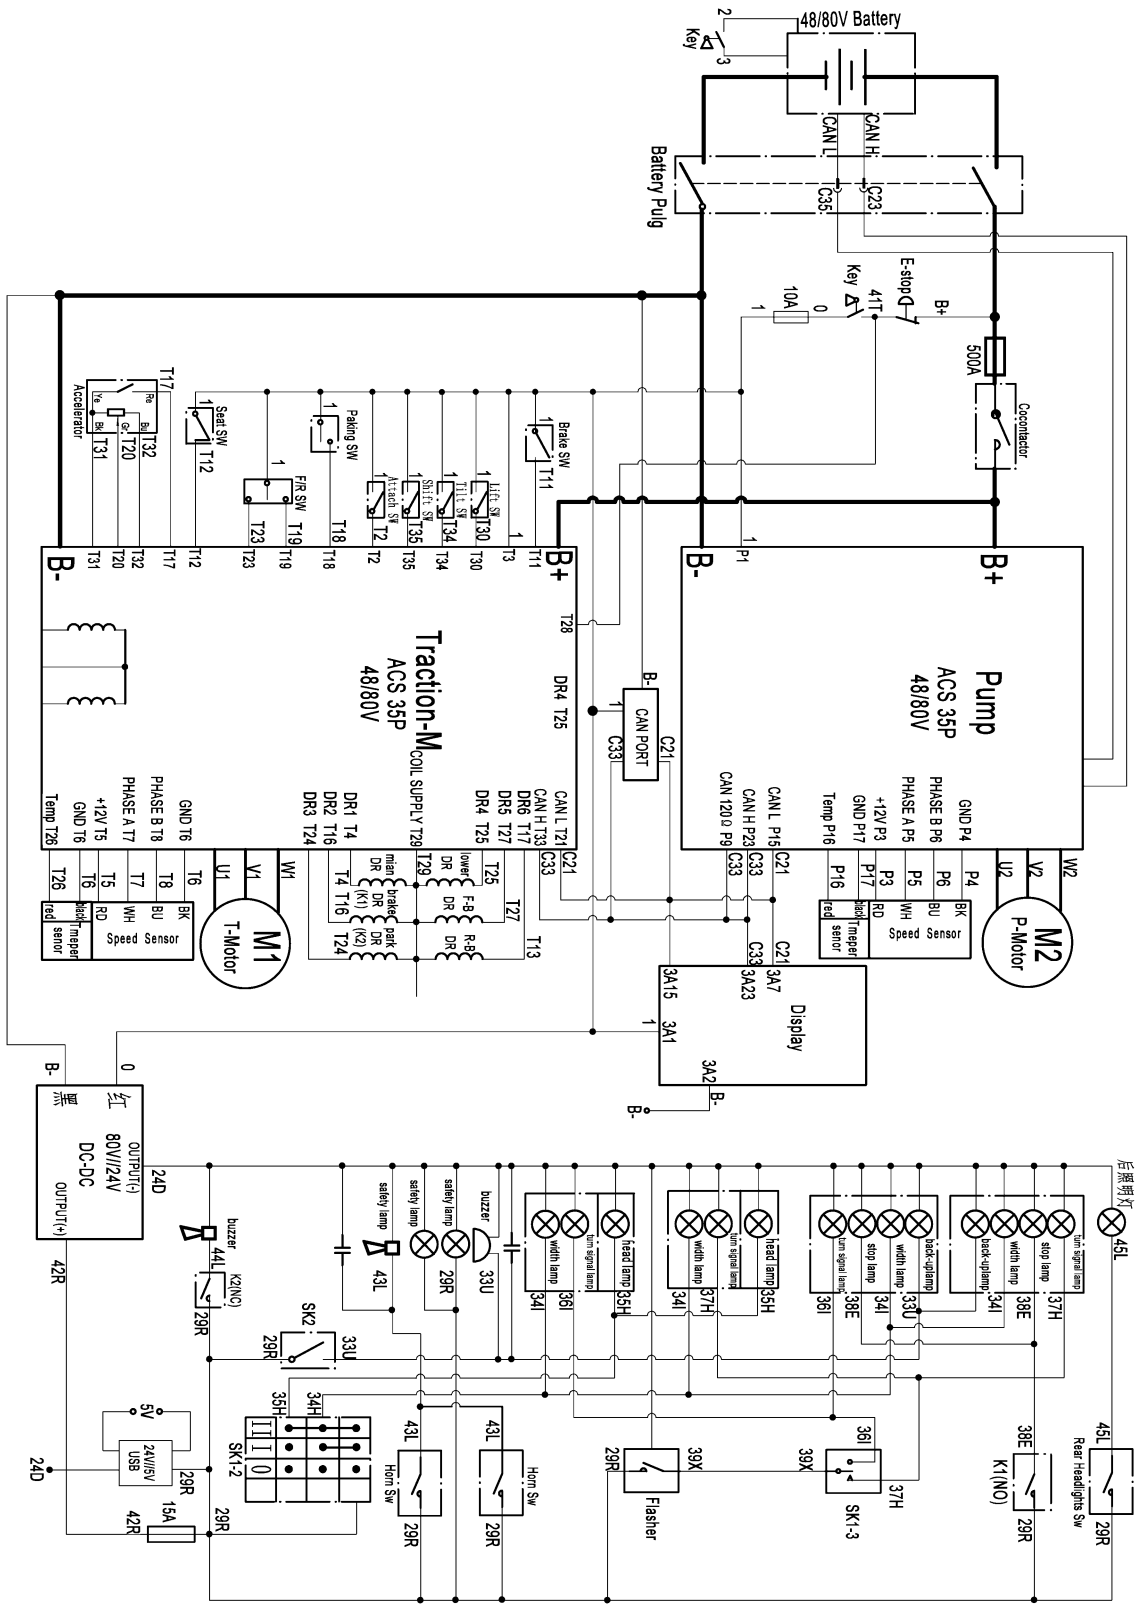

Figure2-23 Electrical schematic diagram—Inmotion
4.2.2 Electrical schematic diagram—Inmotion(Figure2-23)